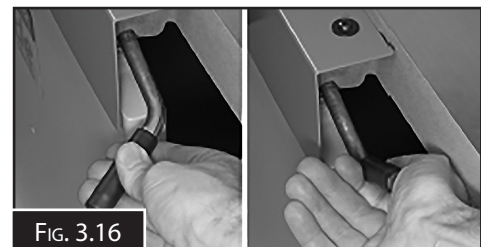

FIG. 3.16
2. Remove the fence assembly and place the unit in a safe place where damage is minimized. Unlock the infeed table locking handle (Fig.3.16) and raise the table up out of the way
5. While holding the table, pull out the table locking bar (Fig.3.16) and lower the outfeed table, securing in place with the locking handle. Place the straight edge across the tables and check again. Repeat the procedure until both surface tables are level.